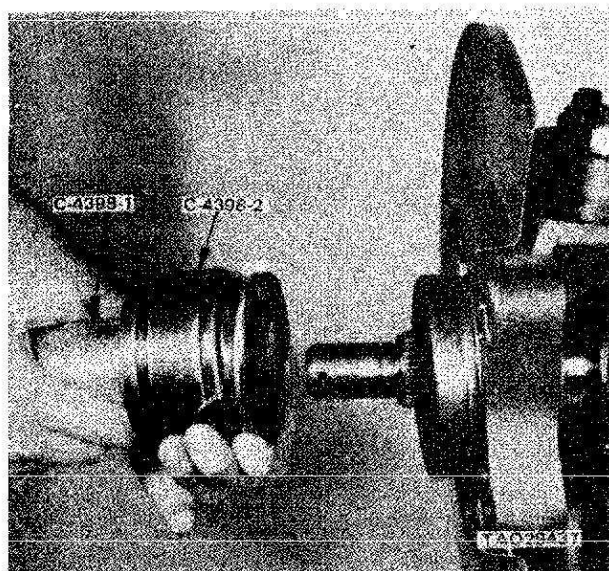

Figure 2-62.5. Cup Installation.
(6) Using adapter C-4398-2 and driver C-4398-1, bottom the seal cup in the knuckle. Refer to figure 2-62.5.